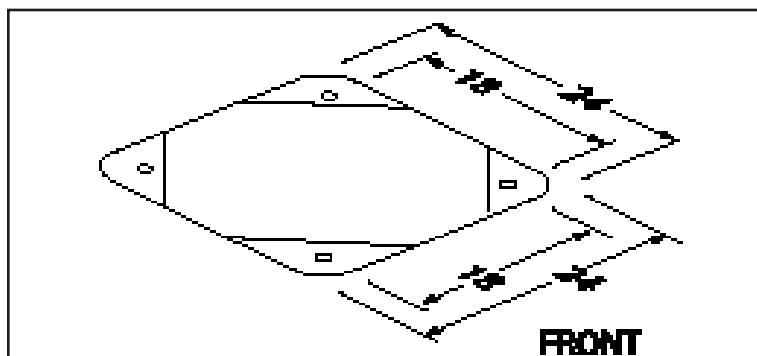

Figure 1
1. Locate the (4) foundation holes inside the base in all four corners. The machine is designed to be secured to the floor, See Fig. 1. Arrange on 18 inch square pattern, (4) $\frac{3}{8}$ " diameter bolts or studs. (Bolts or studs supplied by others.)